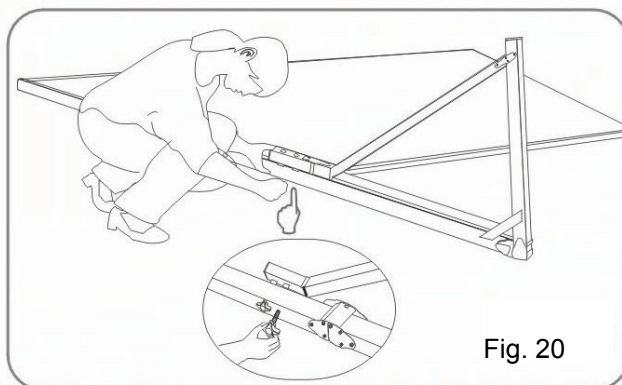

Fig. 20
9. Lay the frame on the floor and position the legs over the sides of the frame. Use the hand screws to attach the frame to the legs just little before tighten two sides of them firmly.(Fig. 20 + 21)